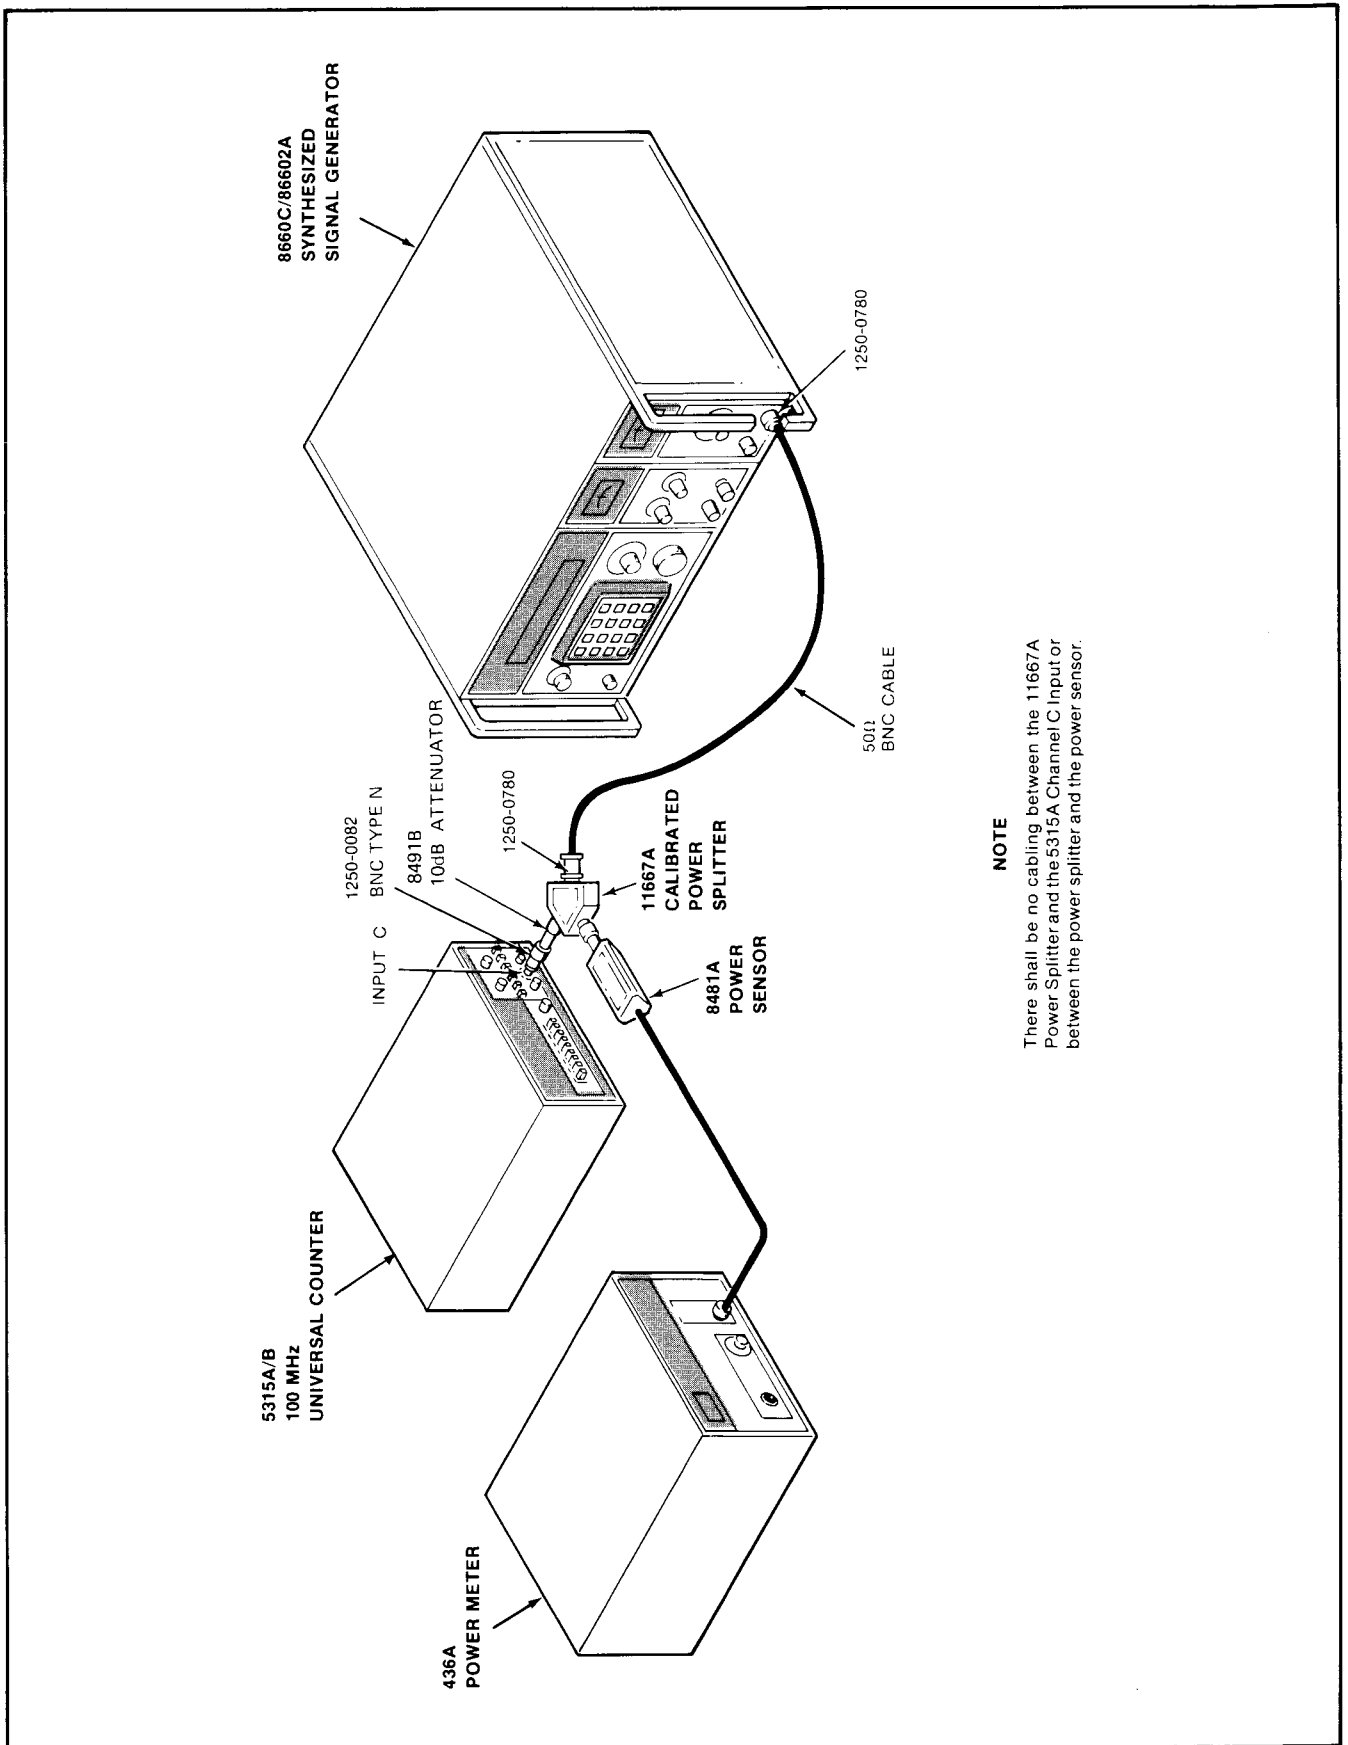

Figure 4-1. Channel C Frequency Response and Sensitivity Test Setup
- c. Connect the HP 8660C/86602A Synthesized Signal Generator, the HP 436A Power Meter, and the 5315A/B as shown in *Figure 4-1*.